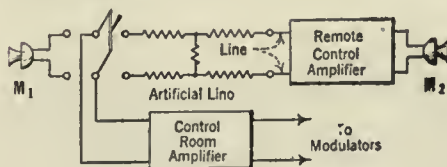

FIG. 1
**E**ACH issue hereafter will contain a practical broadcast problem, involving some calculation, on which professional broadcast technicians can test their skill. The question will be stated, and the same issue will contain a full solution, confirming the answer reached by those readers who handled the problem successfully, and showing the others how they should have gone about it. The problem for this month (See Fig. 1) is the following: